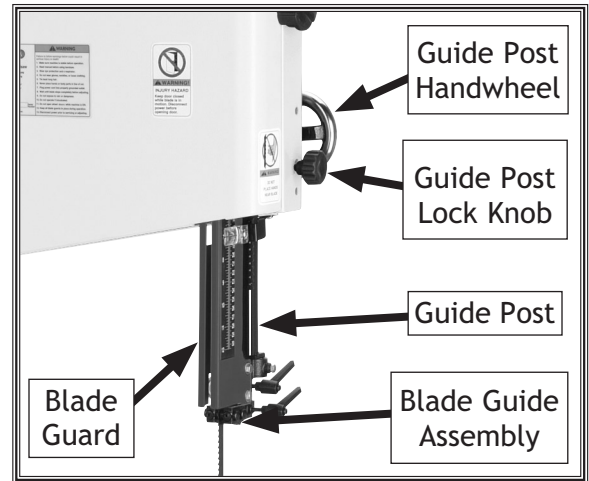

Figure 39. Guide post controls.
The guide post (shown in **Figure 39**) connects the upper blade guide assembly to the bandsaw. The guidepost allows the blade guide assembly to move up or down to be as close to the workpiece as possible. In order to cut accurately and safely, the bottom of the blade guide assembly must be no more than 1" above the workpiece at all times—this positioning provides the greatest blade support and minimizes the amount of moving blade exposed to the operator.
2. Loosen the guide post lock knob shown in **Figure 39**.